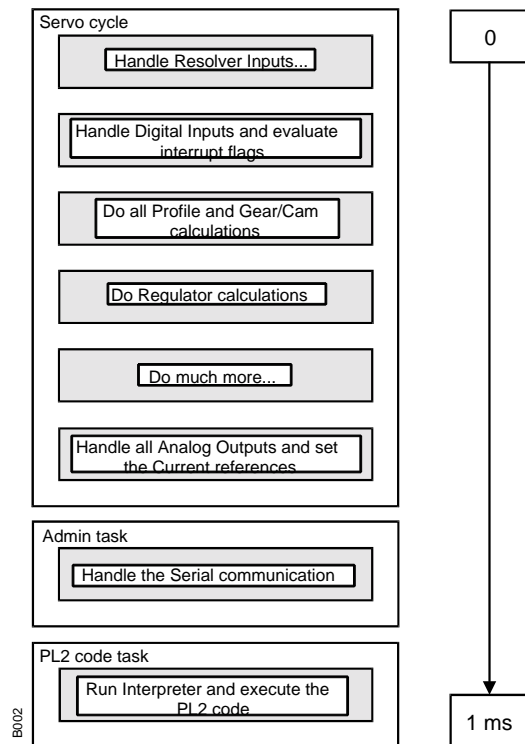

Figure 2. DMC servo cycle.
- One is clock dependent, executing once each system clock cycle. This is called a servo cycle. (Figure 2.). It handles all real time critical tasks, such as velocity and position measurement, regulators, motion profiles, cams and gear functions. It also updates real time outputs, i.e. analog outputs for monitoring purposes.